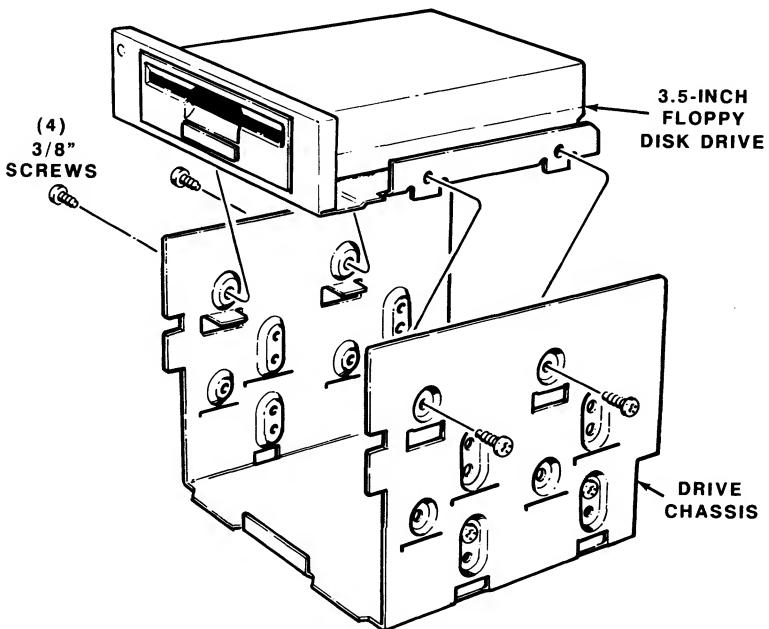

Figure 5-10. Installing the Drive Into the Drive Chassis
9. Secure the drive to the chassis using four 6-32 x 3/8" screws, as shown in Figure 5-10.